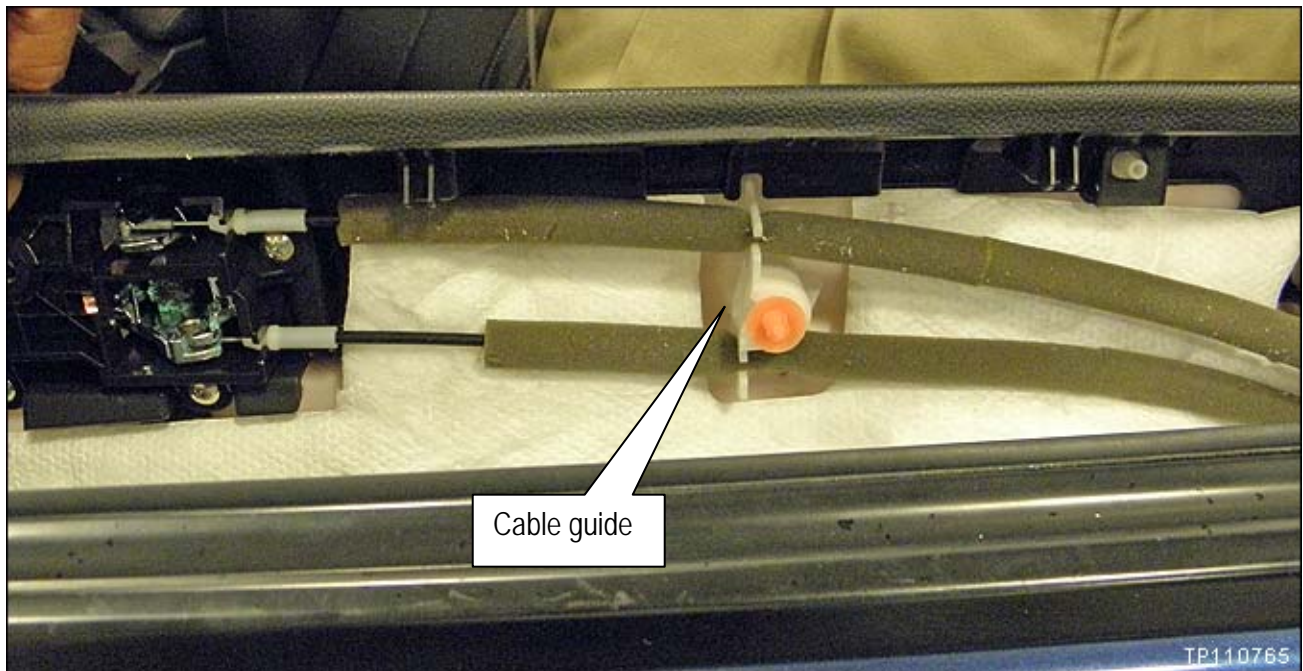

Figure 14
- Make sure door lock cables are routed through the cable guide (see Figure 14).